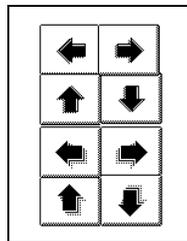

Figure 4-54. Position and Size Control Arrows
5. Click on the position and size control arrows (Figure 4-54) as needed to adjust the image (outlined by the red border with rounded corners).